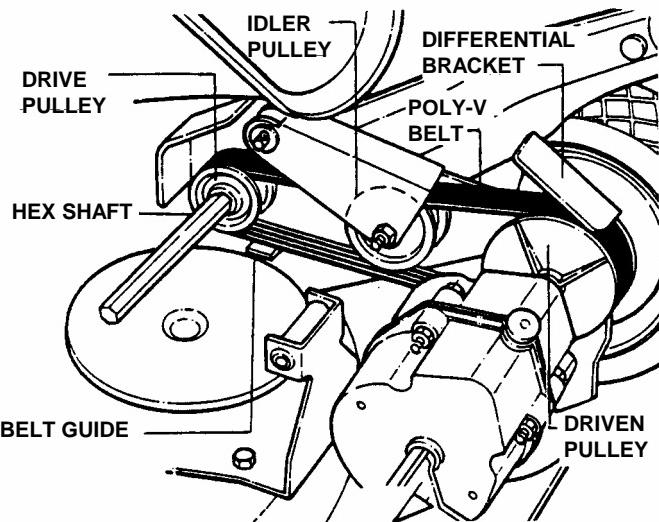

FIGURE 4.19
- Note the routing of the old belt around the three pulleys before removing it. See Figure 4.19.
- Twist belt sideways and pull it upward between the differential bracket and driven pulley and then down into the pulley groove. Make sure the Poly-V Belt is above belt guide. See Figure 4.19.